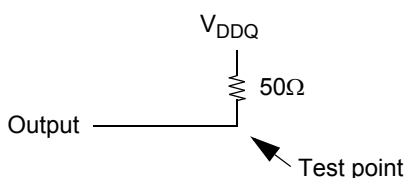

Figure 3 : Pull-down slew rate test load
b. Pull-down slew rate is measured under the test conditions shown in Figure 3